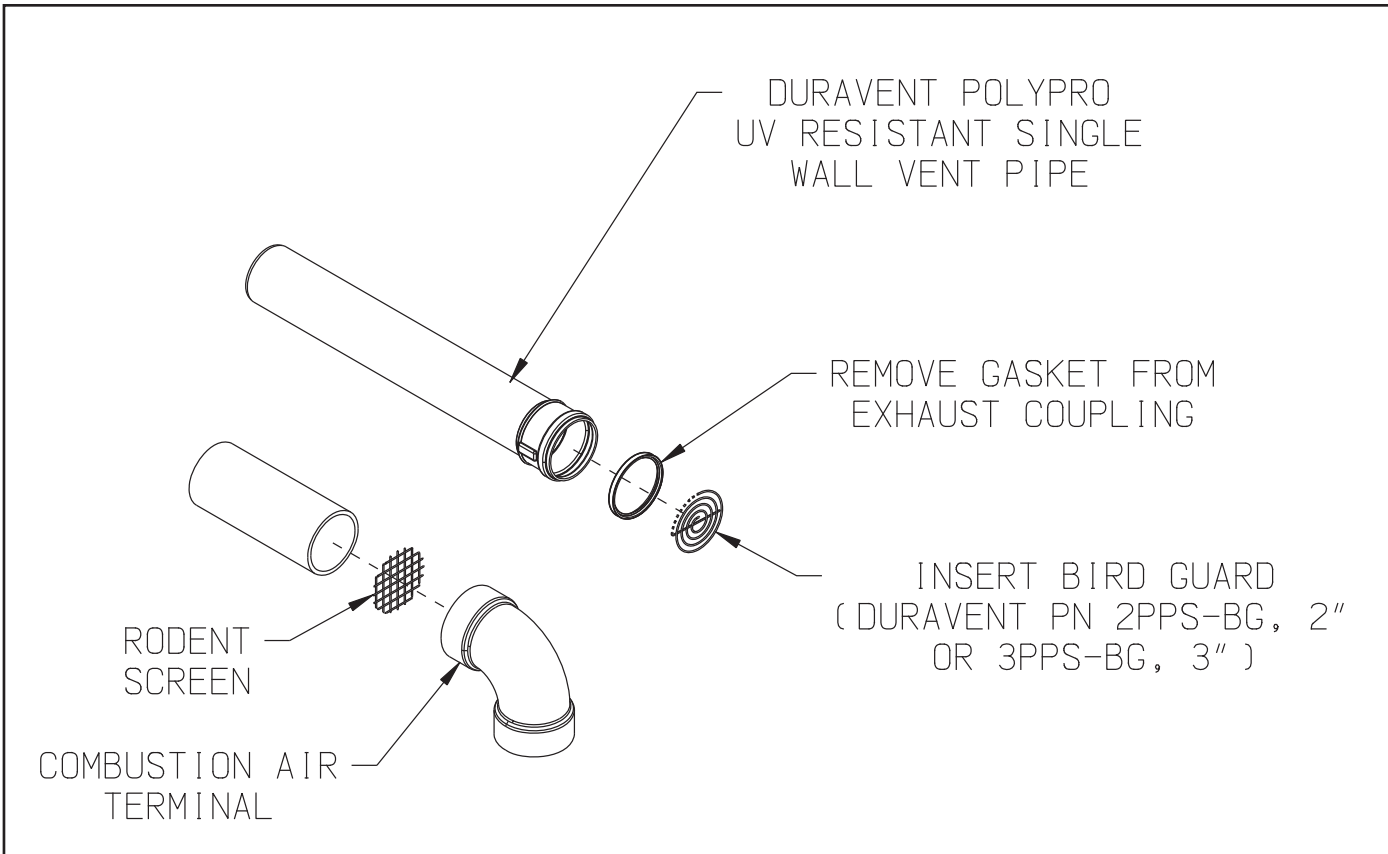

FIGURE 7.27: INSTALLATION OF DURAVENT POLYPRO UV RESISTANT SINGLE WALL HORIZONTAL TERMINAL
- a. See Figure 7.27 for proper orientation of twin pipe horizontal terminals. Outer edge of exhaust coupling must be 10" or less from the wall surface. (Figure 7.5)